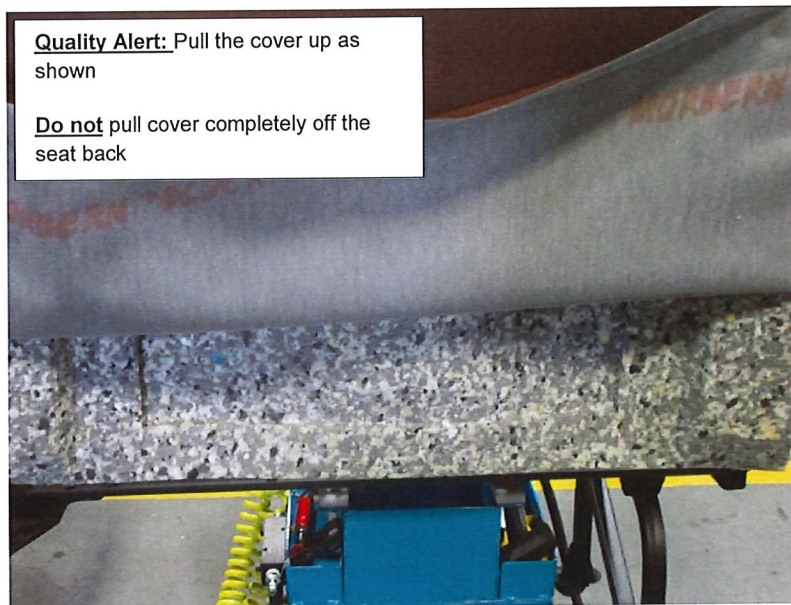

Figure 5 : Pull up the cover (back of seat)
10. Pull cover up as shown on the back side of seat **Figure 5**